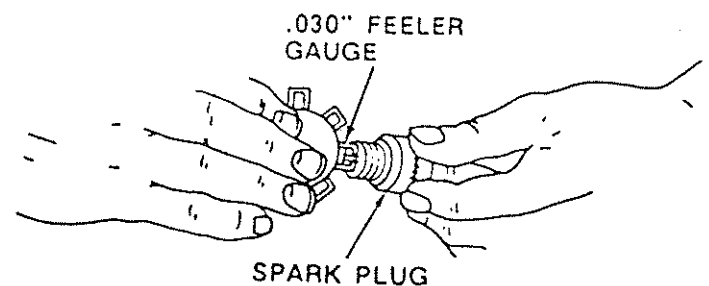

FIGURE 22
- The Spark Plug (Fig. 22) should be changed every 50 hours of operation or at the beginning of every tilling season.
- Reset gap at .030 (Fig. 22). Order Spark Plug listed in the Repair Parts Section of this Manual.